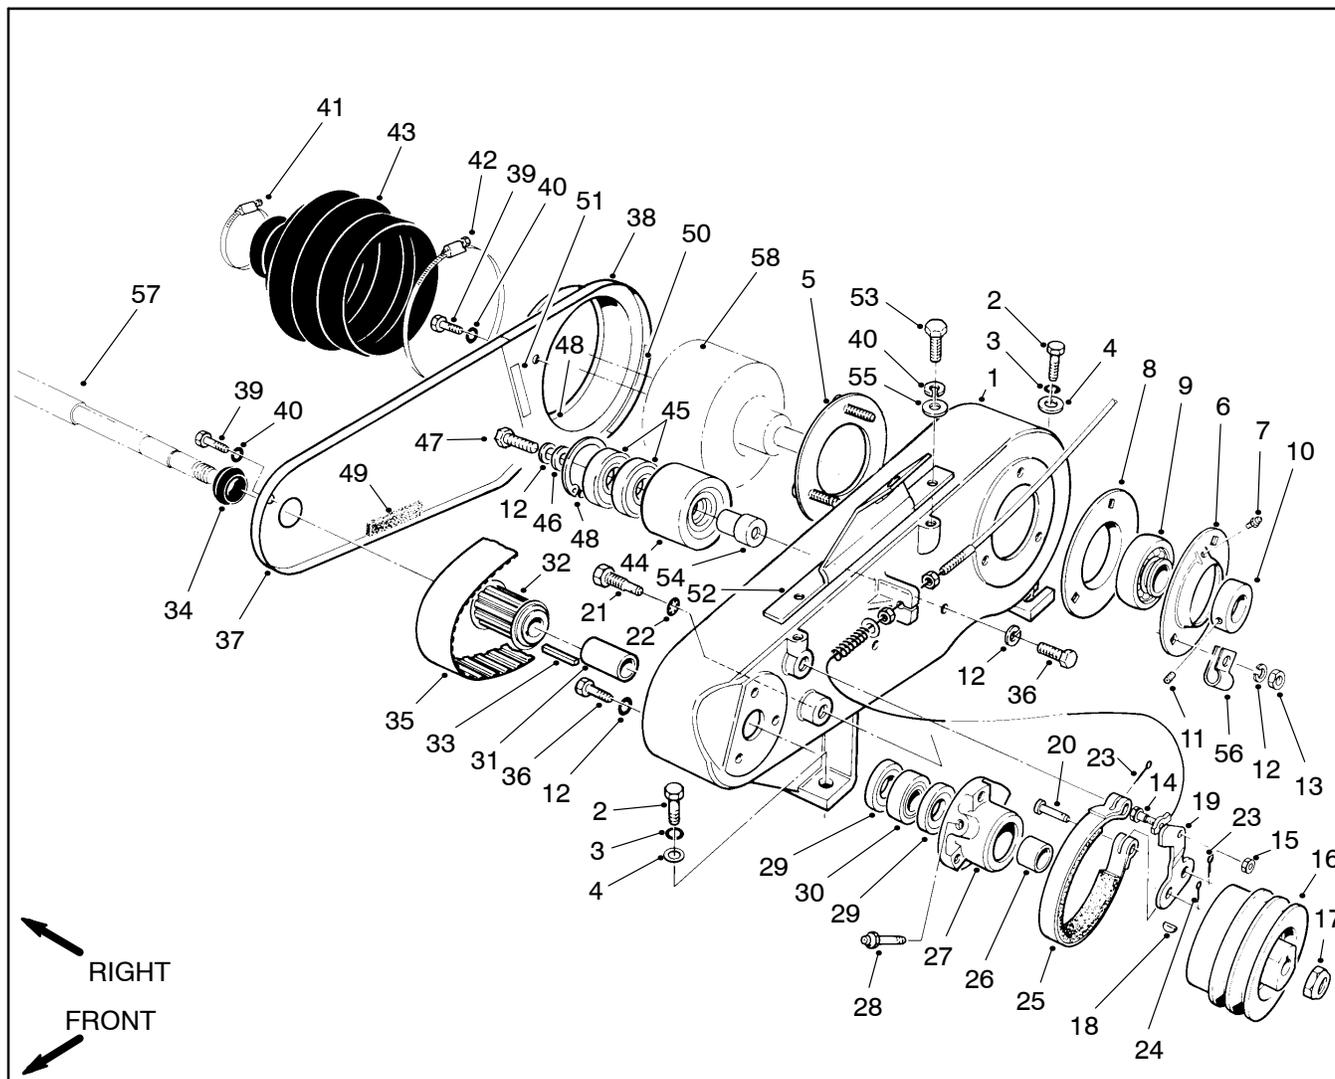

Figure 33
4. Remove lock nut (17) from power shaft (57). Slide input shaft pulley (16) off the shaft. Remove key (18) from the shaft (Fig. 33).
5. Remove brake band (25) from counter shaft housing (1) as follows (Fig. 33).
- A. Remove cotter pin (23) from the brake support (21).
- B. Remove cotter pin (24) and clevis pin (20) from the brake lever (19).
4. Apply never seize to the keyway area of the power shaft (57). Install key (18) to the shaft (Fig. 33).
5. Slide input shaft pulley (16) onto the power shaft (57) and through the brake band (25). Secure pulley to the power shaft with lock nut (17) (Fig. 33 and 35).
2. Remove cap screw (39) and lock washer (40) from the front box cover (37) and counter shaft housing (1). Remove cover from housing (Fig. 33).
3. Loosen cap screw (36) enough to rotate idler pulley (44) away from the belt (35). Loosen belt by rotating the idler pulley counterclockwise (Fig. 33).
4. Remove three cap screws (36) and lock washers (12) from the counter shaft housing (1) and bearing housing (27). Slide the bearing housing off the power shaft (57) (Fig. 33).
2. Slide the bearing housing onto the power shaft (57).
3. Secure three cap screws (36) and lock washers (12) through the counter shaft housing (1) and into the bearing housing (27) (Fig. 33).
6. Remove jam nuts (13), lock washers (12), and cable clip (15) from the studs of screw plate (5) (Fig. 33).
7. Slide flangettes (6 and 8) and bearing (9) off the differential axle (Fig. 33).